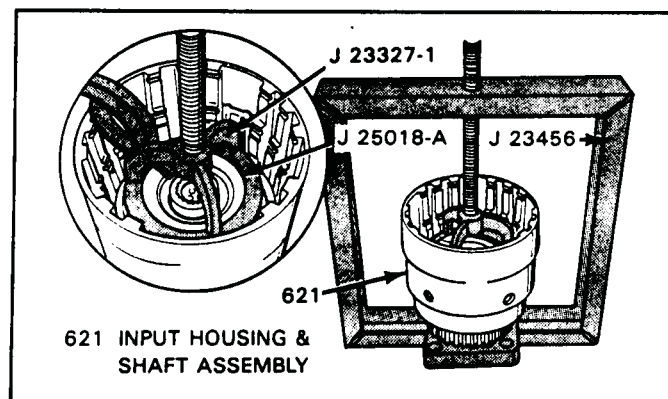

Figure 115
17. Install the proper spring compressor as shown in Figure 115, and compress the return spring assembly carefully.